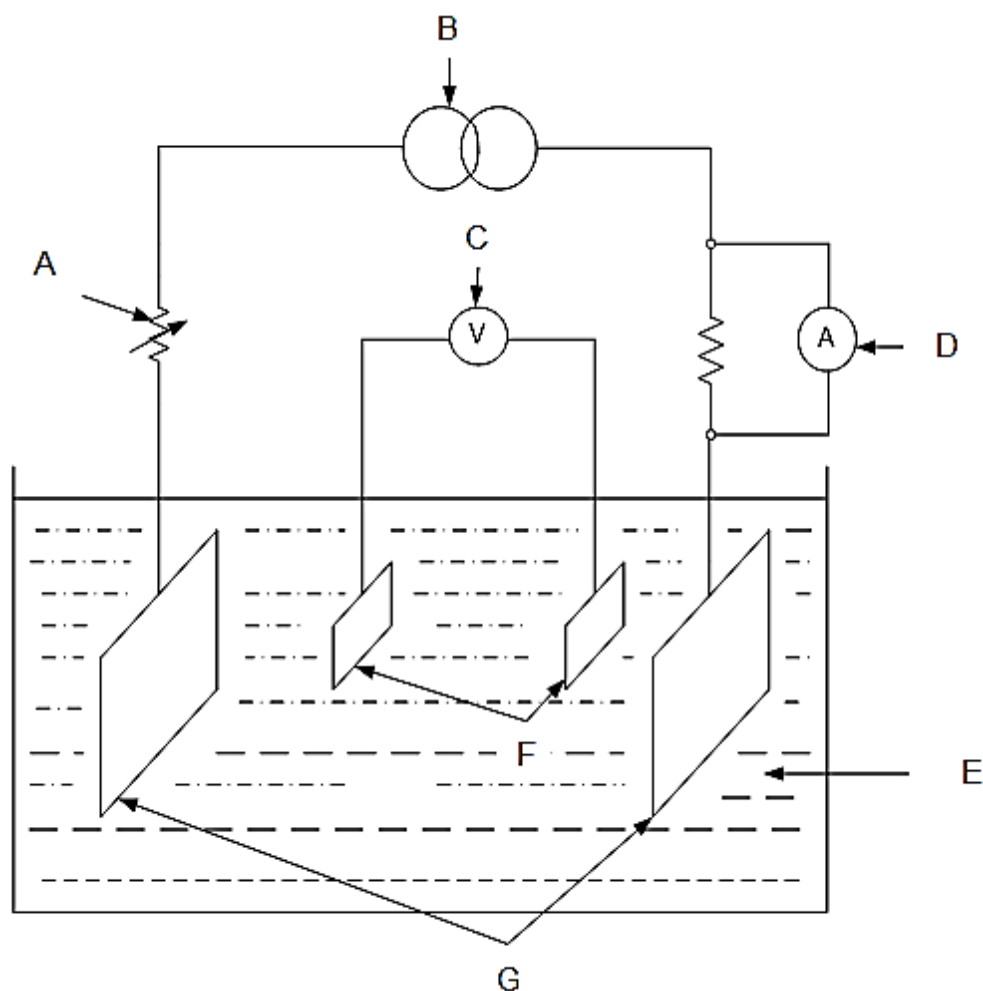

FIGURE 2
- 4.3 Study FIGURE 2 below and label components A to G. (7)